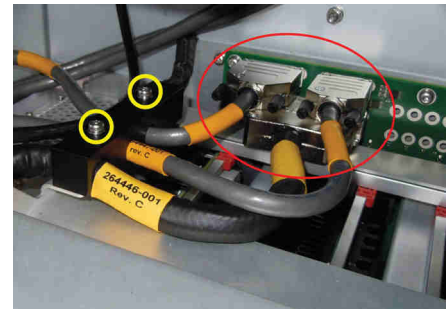

Fig. 10.26 Support, connectors
- 10 Take out the Crate Assy. Remove the cable support using Torx T20 screwdriver (tools 1/8) to remove two screws as indicated with yellow circles in Fig. 10.26 (p. 147). Disconnect the three connectors within the red ellipse in Fig. 10.26 (p. 147) and remove the three cables.
- 11 Connect the three cables on the new Crate Assy and fix them with the cable support (Fig. 10.26 (p. 147)). Place the new Crate Assy in RxTx.